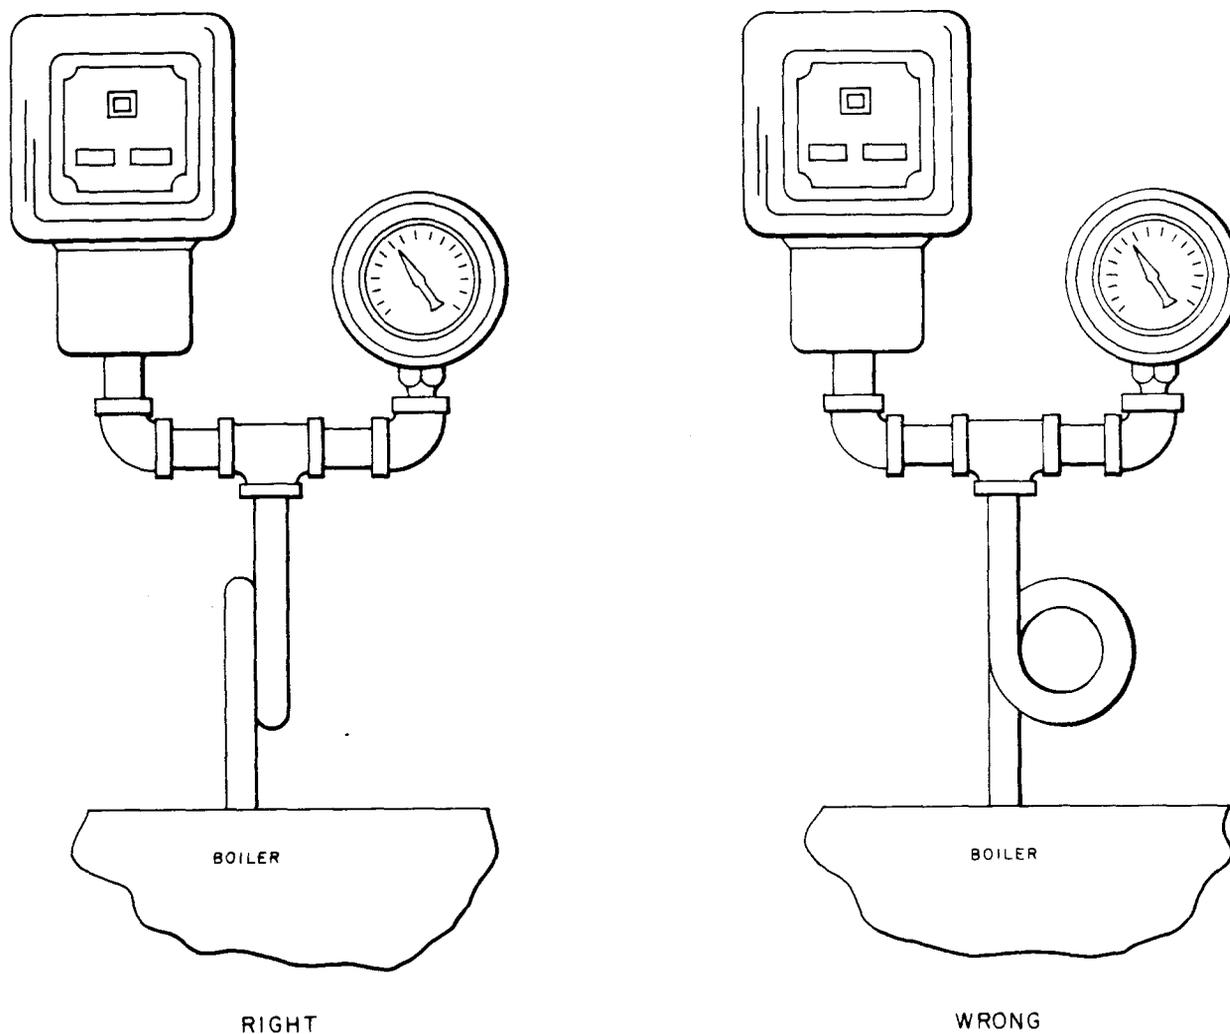

Fig. 1—Pressure Control Installation
2.04 Operating and limit controls are either a mercury tube-type switch or a pressure contact-type switch. If the control has the mercury tube-type switch and is mounted on the boiler using a siphon, this control must be mounted plumb and the face of the control at right angles to the loop of the siphon. (See Fig. 1.) This is done so that the mercury tube is not tilted by expansion of the siphon loop causing the mercury to migrate to the wrong end of the tube so that an electrical contact is made or opened when it should not be.